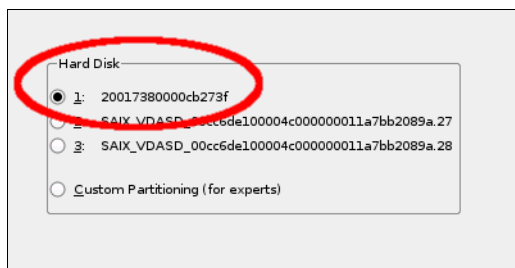

Figure 4-11 Preparing Hard Disk: Step 1 window with multipath devices
1. Click **Back** until you see the initial partitioning window again. It now shows the multipath devices instead of the disks (see Figure 4-11).